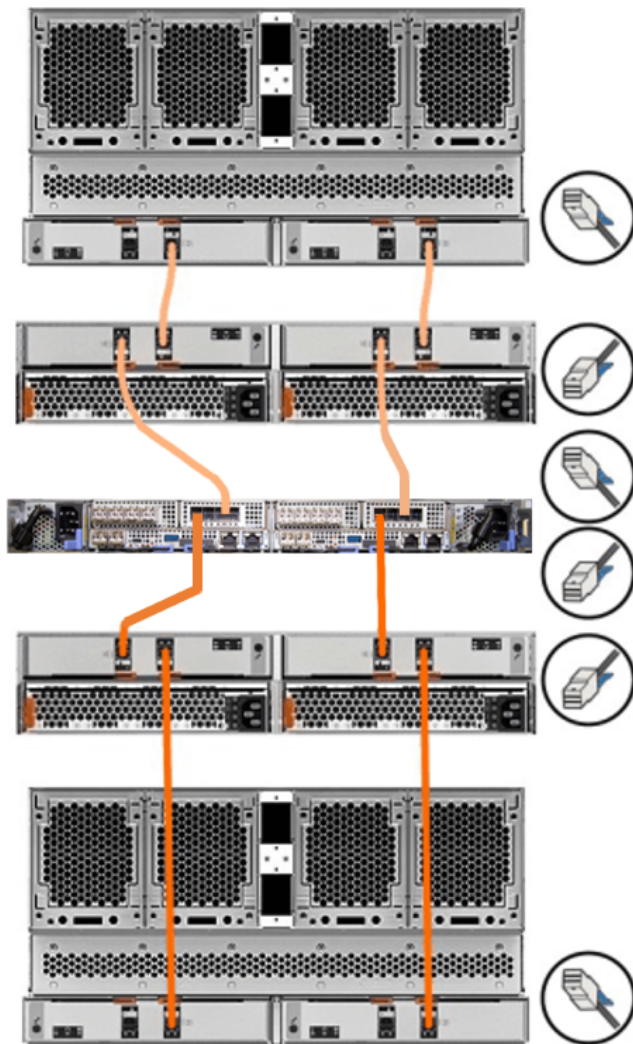

Figure 53. Connecting the SAS cables to control enclosure
- The FlashSystem models support 4-port SAS interface adapters. However, only ports 1 and 3 are used for SAS connections, as Figure 53 on page 94 shows.
- See “Enclosure location guidelines” on page 52 for the number and type of expansion enclosures that can be chained to SAS port 1 and SAS port 3 of a node canister. The expansion enclosures in this chain must be installed below the control enclosure (as shown in Figure 53 on page 94).
- Figure 53 on page 94 shows an example configuration of a control enclosure that is connected to two SAS chains.
- Figure 53 on page 94 is a generic cabling diagram intended to illustrate how to cable the different types of expansion enclosure. Some systems do not allow for a mixture of expansion enclosure types in the same chain. See Chapter 4, “Expansion enclosures,” on page 37 for details on the supported expansion enclosures for your specific system model.
Using the supplied SAS cables, connect the control enclosure to the expansion enclosure at rack position 1, as shown in Figure 53 on page 94.
To add further expansion enclosures, continue to connect the expansion canisters as shown in Figure 53 on page 94.